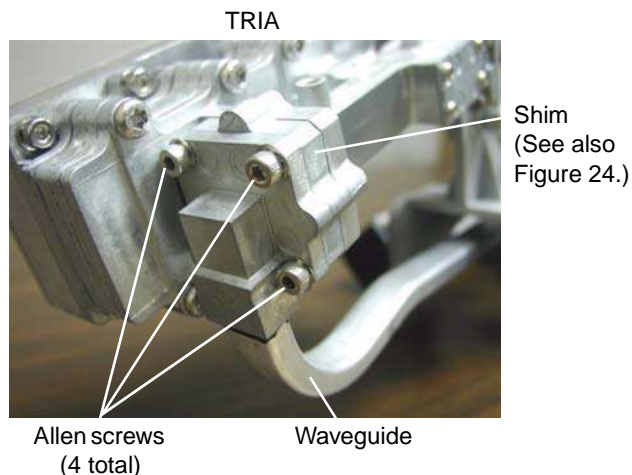

Figure 23: Shim location next to TRIA
Figure 23 shows where the shim is located and shows three of the four Allen screws that hold the shim in place.
2. Loosen and remove the four Allen screws that hold the shim in place. See Figure 23.